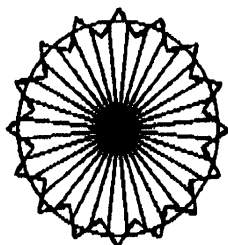

FIG. 6
- Follow fig. 6-start outside the pattern and walk across the pattern until the control unit go on and off, repeat it until you are satisfied with the coverage to conduct another walk test. Turn off the power for at least 5 seconds and turn it on again.